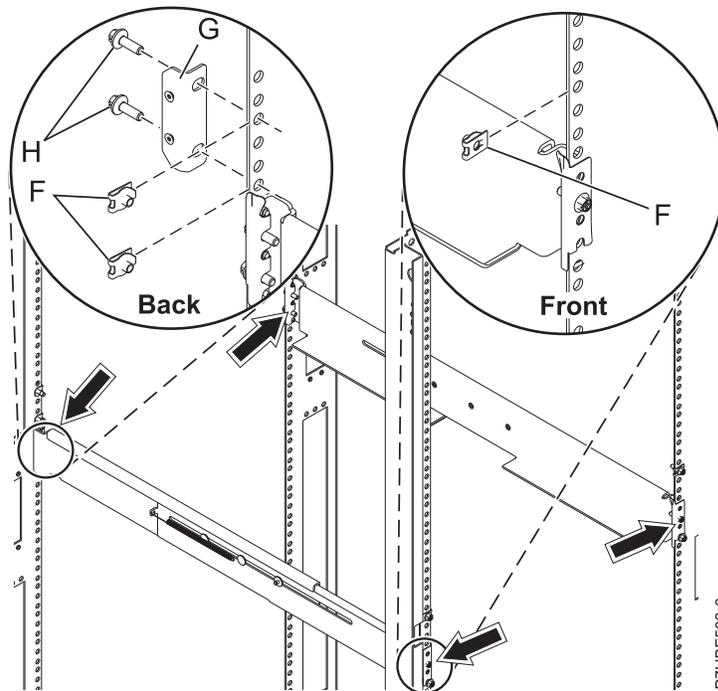

Figure 37. Installing the retention bracket
10. Use one M5 screw (E), below the top rail pin (D), to secure the right rail to the front of the rack.
11. Insert one nut clip at the marked location (A) on the front-left rail.
12. Insert one nut clip at the marked location (A) on the front-right rail.
13. Insert one nut clip (F) on the right side of the rack as shown in Figure 37 on page 46.
14. Insert one nut clip (F) on the left side of the rack as shown in Figure 37 on page 46.
15. From the back of the rack, insert two nut clips (F) on the right side of the rack as shown in Figure 37 on page 46.
17. Insert two nut clips (**F**) on the left side of the rack as shown in Figure 37.